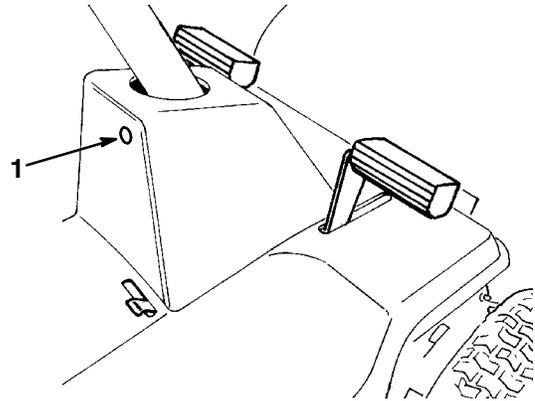

**Figure 9**
If you need to use the PTO while backing up, you can turn off this interlock feature using the KeyChoice switch located near the seat bracket (Fig. 9).
2. Insert the KeyChoice key into the switch (Fig. 9).